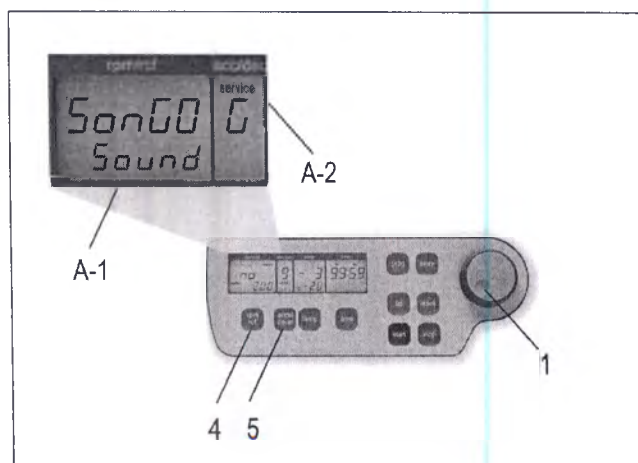

Figure 7
Proceed as illustrated, under point 1.8.1, to enter this program mode, press the key, "accel/decel" (5). In the display, "accel/decel" (A-2) flashes the word, "service". Select the letter, "G" with the adjustable knob (1). As a result, appearing in the display, "rpm/rcf" (A-1), the word "SonGo/Sound". After pressing the key „rpm/rcf" (4), select a song with the adjusting knob (1), (see Figure 7).